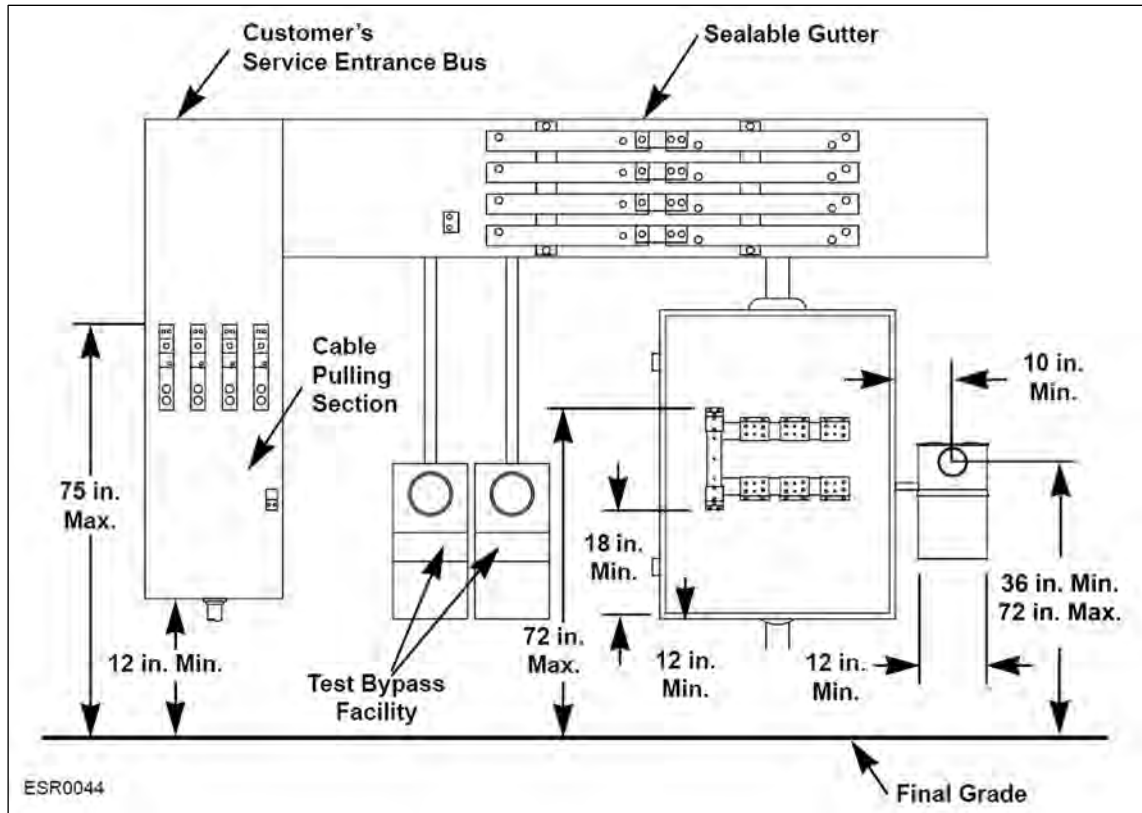
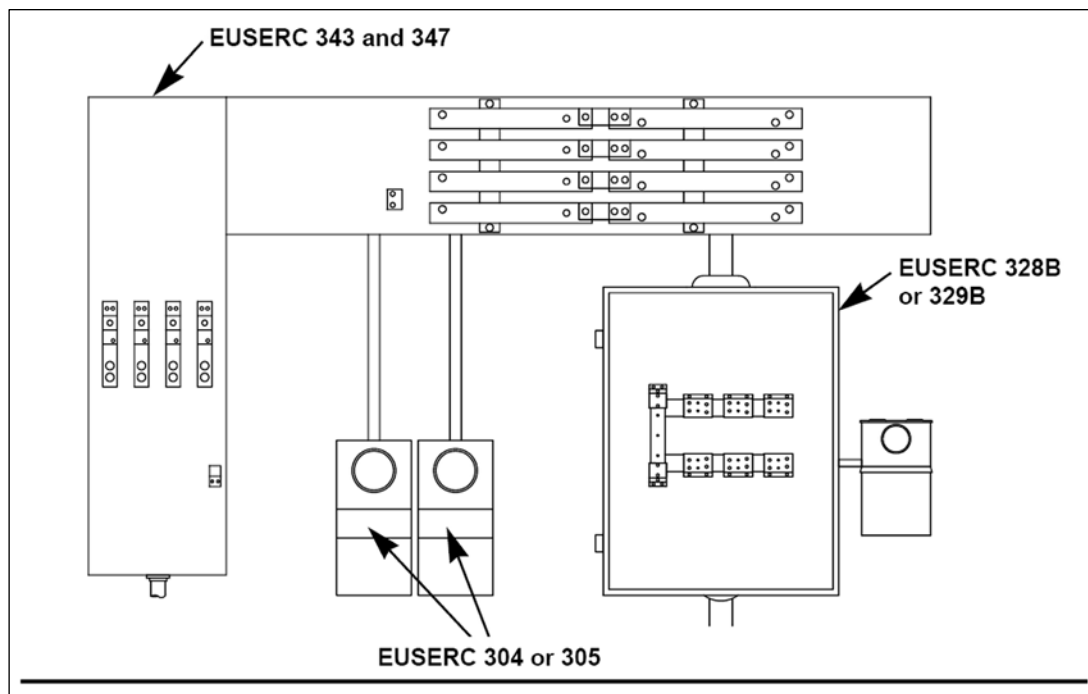

Figure 70: Combination Current Transformer/Direct-Connect, Wall-Mount Metering, 0 to 800 A
Figure 71: EUSERC Identifications for Combination Current Transformer/Direct-Connect, Wall-Mount Metering, 0 to 800 A
Figure 70 shows a combination current transformer (CT)/direct-connect wall-mount metering, 0 to 800 A. **Figure 71** shows the EUSERC identification for this equipment.